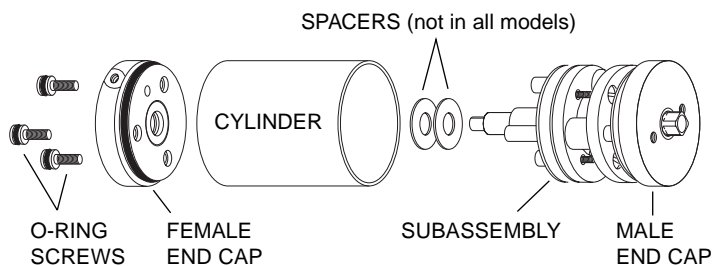

Figure 4: Steps 7-10
7. Use the 9/64" hex driver to remove the three O-ring screws. **(Figure 4)** Some models have slotted head screws instead of hex head.
9. While holding the cylinder and the rest of the assembly together, pull the female end cap all the way off. If the actuator has spacers, remove them at this point. (See **Figure 4**) If the bearing and thrust race washers fall out of the end cap, just set them aside.